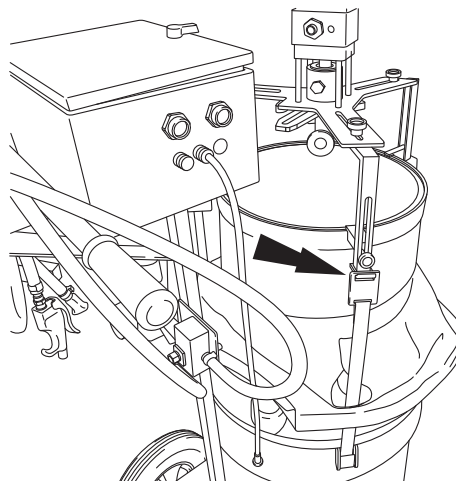

Figure 9
1. Slide the three straps from the DPF Cleaner through the dust skirt slots and secure the straps to the fixture. The tension on the three straps must be equal. See Figure 9.